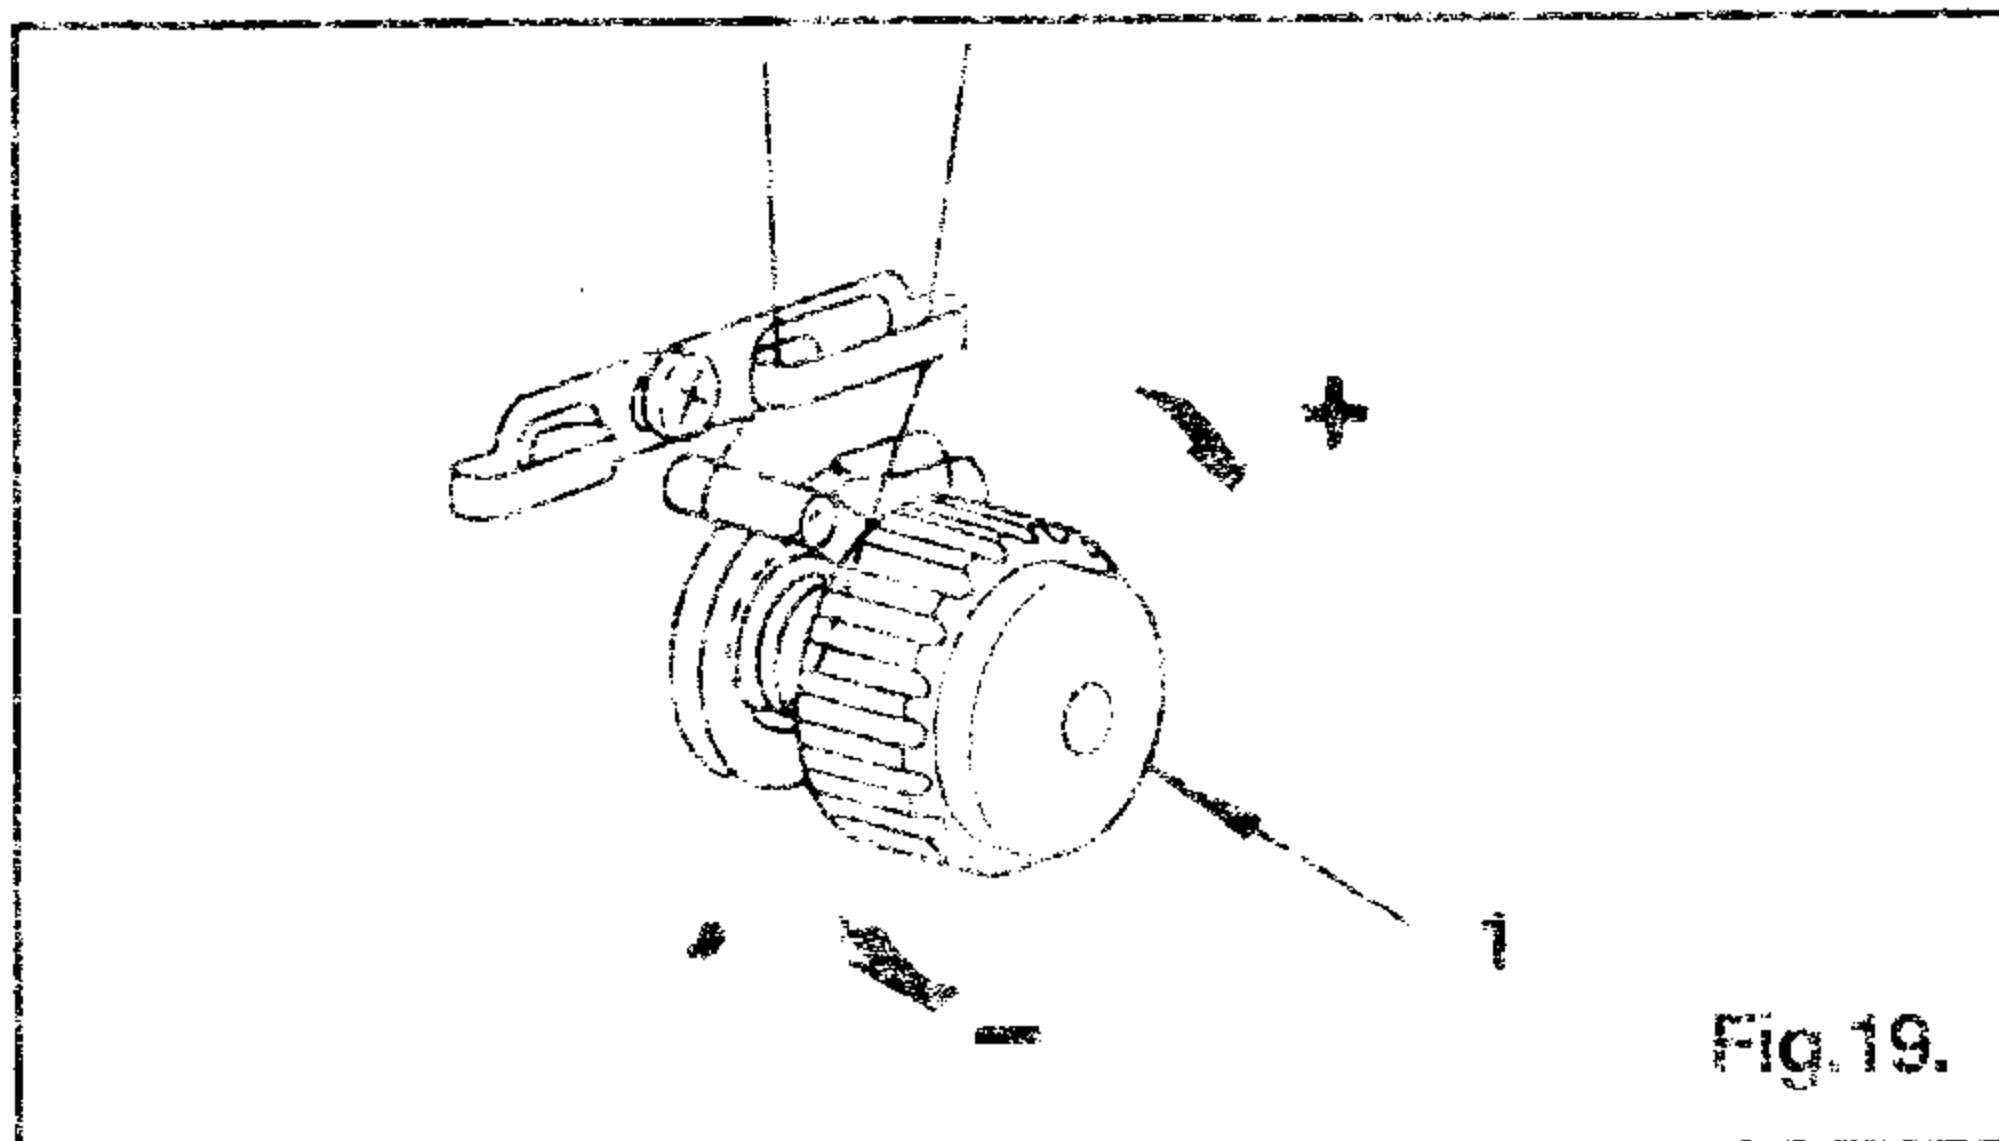

Fig.19.
Regulate needle thread tension with tension regulating knob (1), Fig. 19.
Regulate bobbin thread tension with tension regulating screw (1), Fig.19.